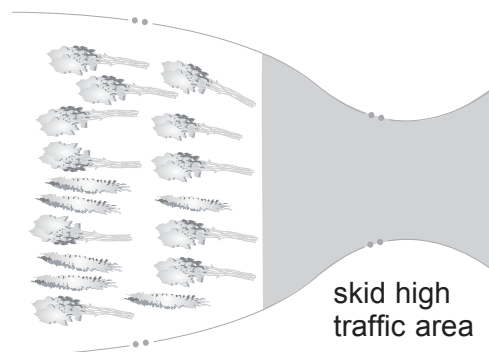

Figure 13d. Skid constricted areas first to promote freezing prior to additional traffic.
- Where cutblock boundaries cause the skid trails to converge, skid high-traffic areas first to allow time for the soil to freeze prior to skidding the area beyond the construction (**Figure 13d**). If the soil in the high-traffic area is wet, establish a designated skid trail.